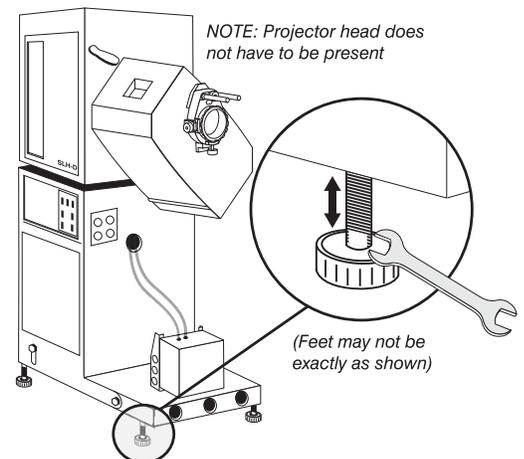

Figure 2.23. Adjust Feet for Leveling / Tilt
- 4) If necessary, adjust the leveling feet for side-to-side leveling or for additional tilt (Figure 2.23). Note that you may have to adjust level more precisely once an image is present.